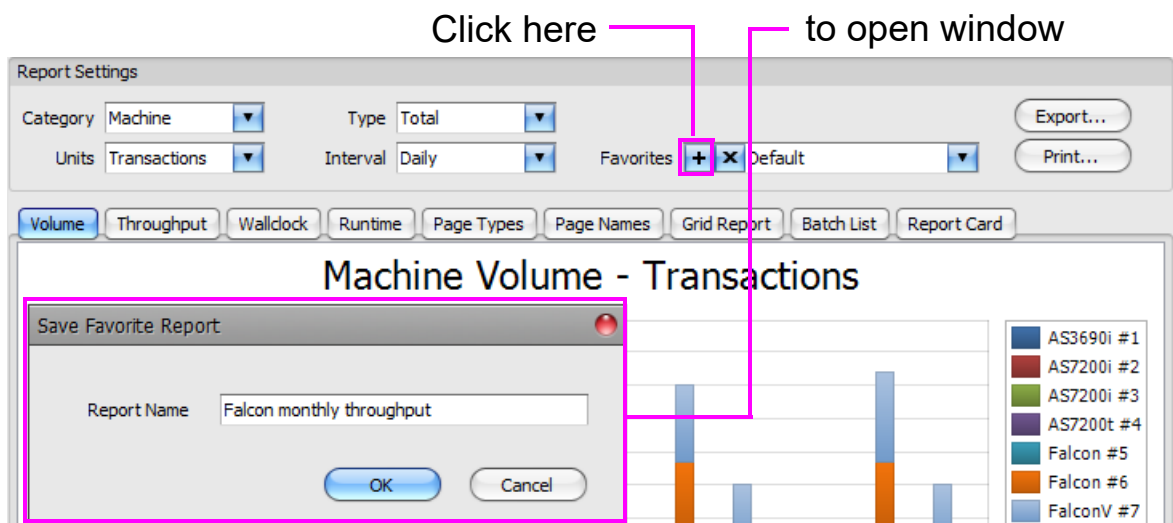

Figure 4-40: Save Favorite Report window
5. Click the plus sign next to **Favorites**. The **Save Favorite Report** window will open (Figure 4-40).